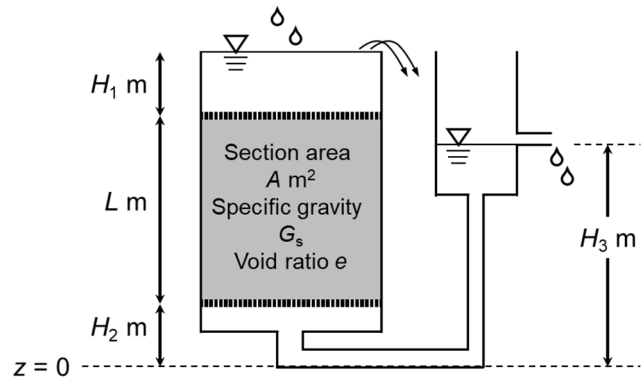

Figure 3
(1) List the factors that affect hydraulic conductivity of soil and briefly explain how each factor affects it.
(2) A constant-head hydraulic conductivity test was conducted as shown in Figure 3. Define the hydraulic gradient i .
(3) Water flowed out from the right-side container at a flow rate of q [m³/s]. Define the hydraulic conductivity k of this soil specimen.
(4) Draw the vertical distribution of the elevation head, pressure head, and piezometric head (= total head) from the datum to the top surface of water for the left-side container. Indicate the intercepts and any necessary values.